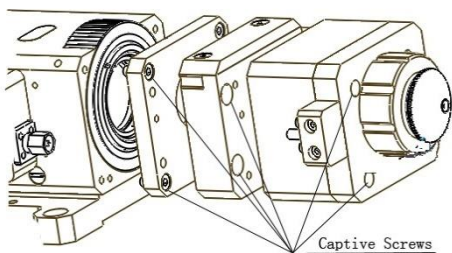

Figure 13 Remove Module WM and TM
- See Figure 13, take out the locking screw from the bottom to the top.